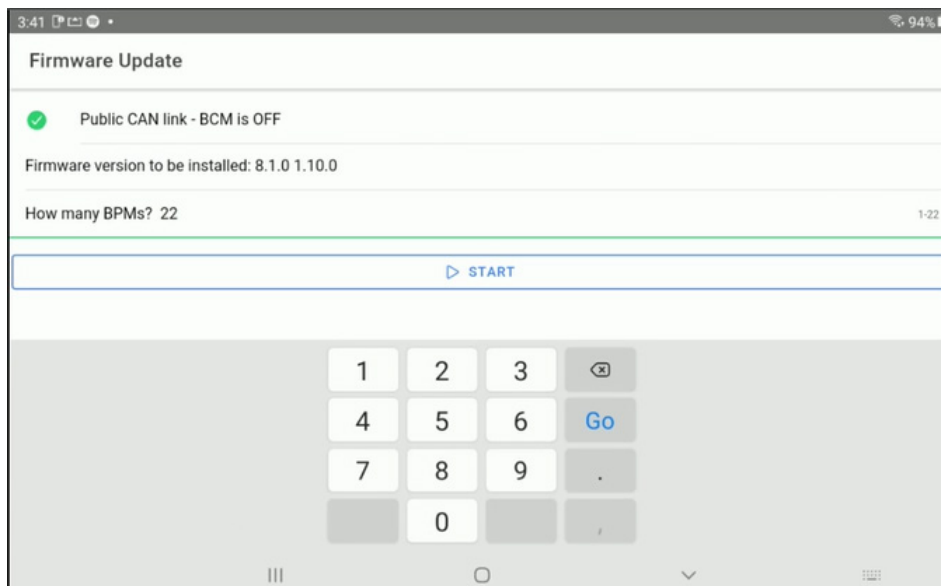

Fig. 5-21, XRT-Li Utility App - BPM Count and Start Button
- Enter the count of BPMs for this BCM and sign off on this work order (**Fig. 5-21**).